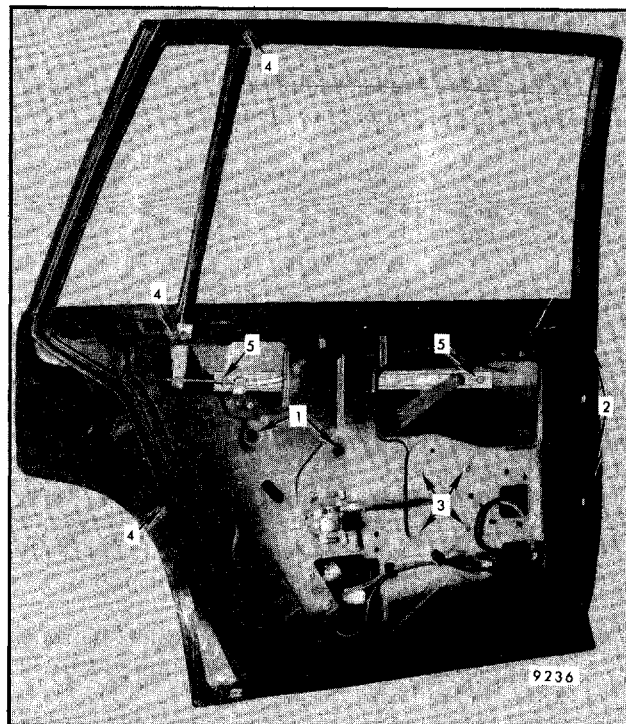

Fig. 5-146-Rear Door Window Hardware - "B,C" Styles
The inner panel cam ("1", Fig. 5-146) can be adjusted to correct a rotated window. No other adjustments are provided.
run channel retainer ("2", Fig. 5-146) and inner panel cam ("1", Fig. 5-146).
3. Partially lower rear door window, remove sash channel cam to glass channel attaching screws ("5", Fig. 5-146).
The stationary vent division channel is held in place by three attaching screws ("4", Fig. 5-146). This assembly acts as a rear door window rear glass run channel and also holds the stationary vent window in proper position. The vent glass is mounted in a rubber channel.
4. Remove division channel attaching screws ("4", Fig. 5-146) and pull forward off rubber channel. Rotate division channel outboard and lift up until attaching bracket clears cutout at beltline; then lift channel inboard of frame to complete removal.
3. Remove inner panel cam ("1", Fig. 5-146) and lower sash channel cam.